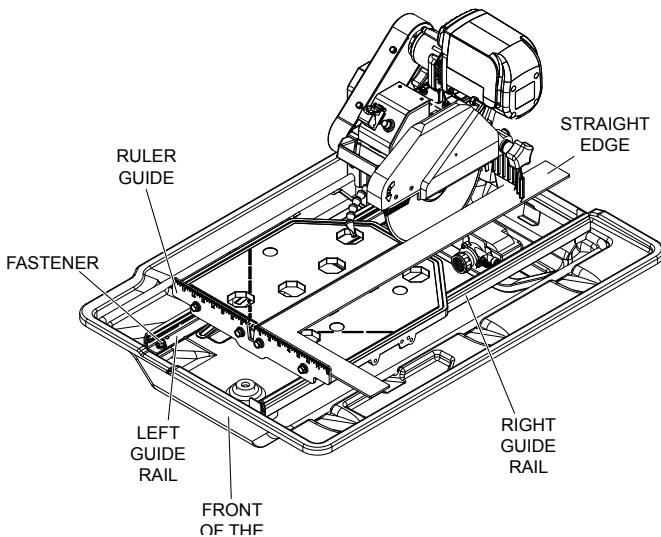

Figure 20. Realigning Guide Rails
2. Place a straight edge (i.e. carpenter's square) on the cutting table as shown in Figure 20.